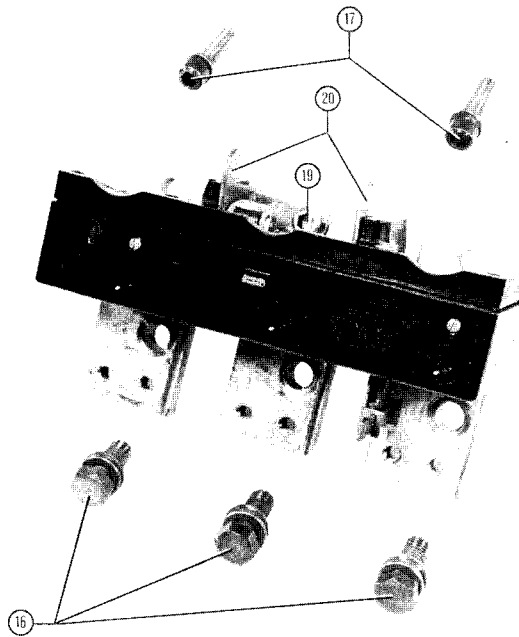

Fig. 4 — 3-Pole Trip Unit
6. Remove three (3) bolts, flatwashers and lockwashers (16, Fig. 4) which connect the trip unit load terminals to the breaker load terminals. Retain screws.
7. On outside poles: remove screws with lockwashers (17, Fig. 4) which are holding arc wires and trip unit terminals to breaker base. Bend arc wires (18, Fig. 5) up and away from breaker base.
8. Loosen trip unit anchor screw (19, Fig. 4) in mechanism pole.
4. At load end of trip unit, replace hex head bolts, lockwashers and flatwashers (16, Fig. 4) and tighten securely. (Recommended torque 11 to 13 ft.-lbs.)
1. Hold breaker handle away from trip unit area, lower trip unit carefully into base. CAUTION: Make sure that slots (20, Fig. 4) in trip unit latch bracket, engage latch pin (21, Fig. 5) on mechanism.
2. Tighten trip unit anchor screw (19, Fig. 4) mechanism pole securely to base. (Recommended torque 11 to 13 ft.-lbs.)
3. Replace arc wires (18, Fig. 5) and screws and lockwashers (17, Fig. 4) on outside poles, tighten